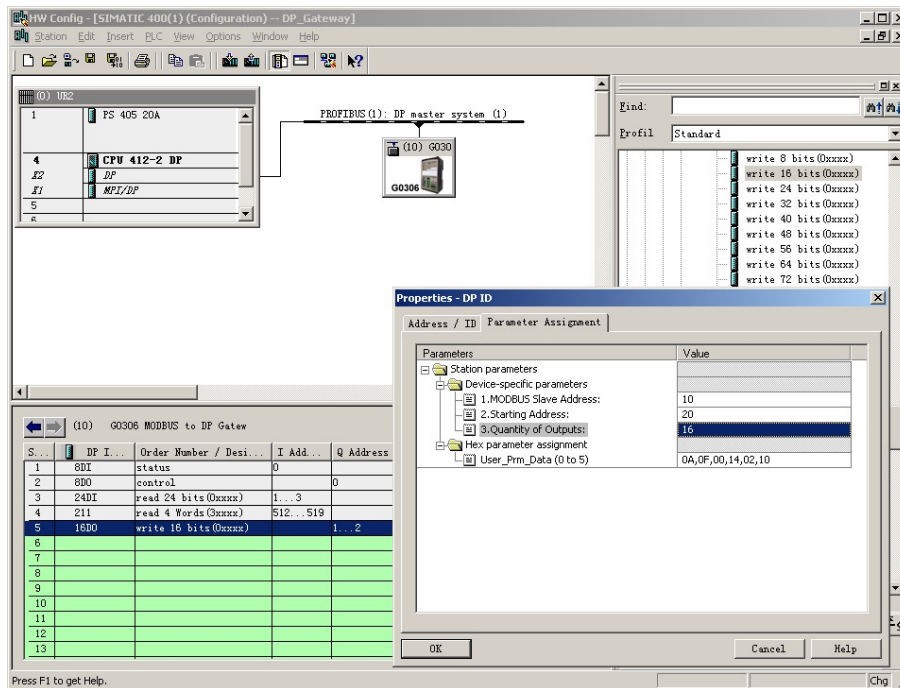

Figure 23 Configure "write 16 bits(0xxxx)" module user parameters
b) Configure the user parameters of the "write 16 bits(0xxxx)" module, as shown in Figure 23:
"1.MODBUS Slave Address:" ⇒ Type in Modbus slave address 10, as shown in Figure 23
"2.Starting Address:" ⇒ Type in the starting address 00021 of the coil 0xxxx to be written, and set the address to 20, as shown in Figure 23
"3. Quantity of Outputs:" ⇒ Enter the number of coils to be written 16 ⇒ "OK", as shown in Figure 23